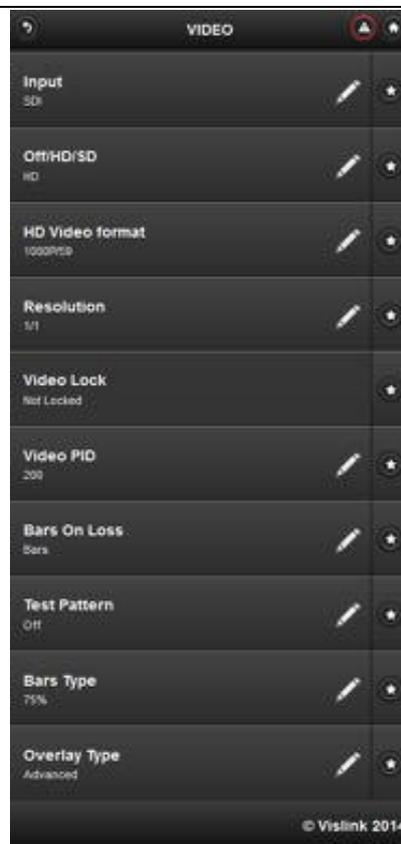

Figure 4-7 Favouirites Menu Example
18. Figure 4-7 shows a representative favorites menu.